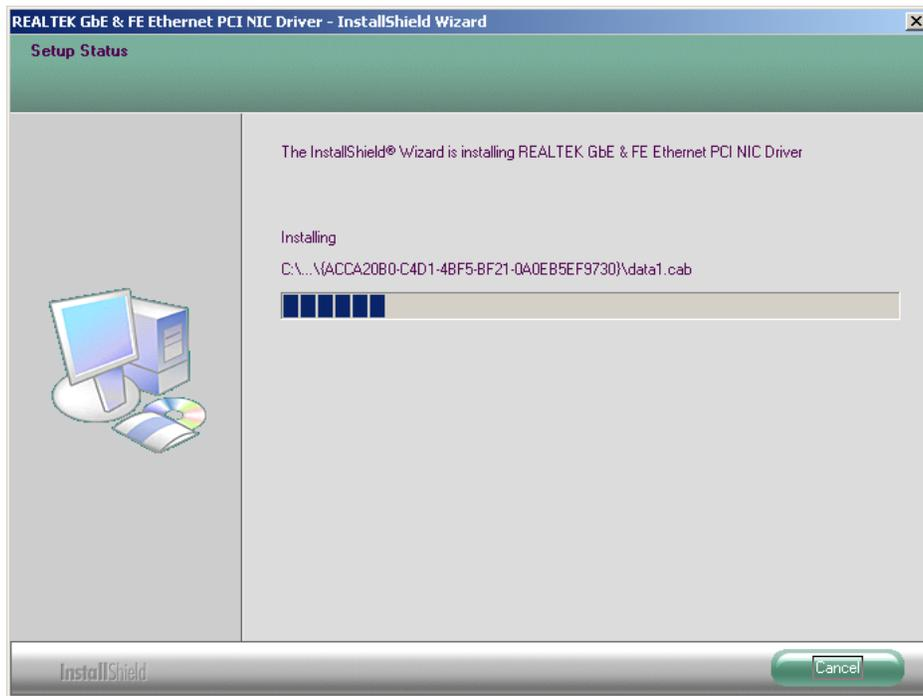

Figure 6-29: LAN Driver Installation
Step 9: The driver is installed. See Figure 6-29.